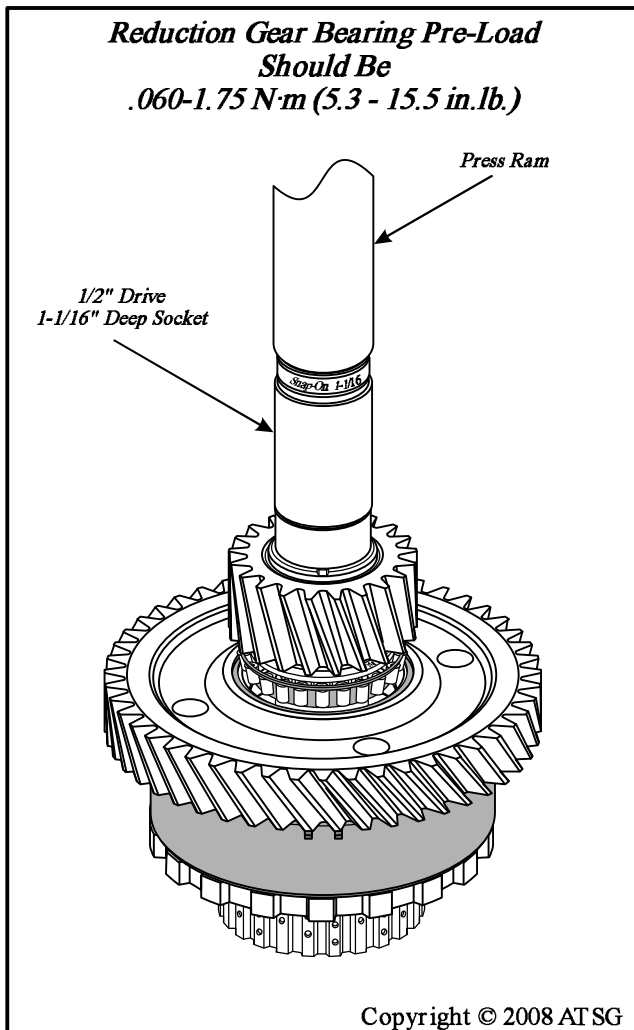

Figure 105
13. Use a press to install the roller bearing, pinion gear and Conv. housing bearing inner race, as shown in Figure 105, and this is where we will set the roller bearing pre-load. This will require that you release the press several times to check the bearing pre-load.